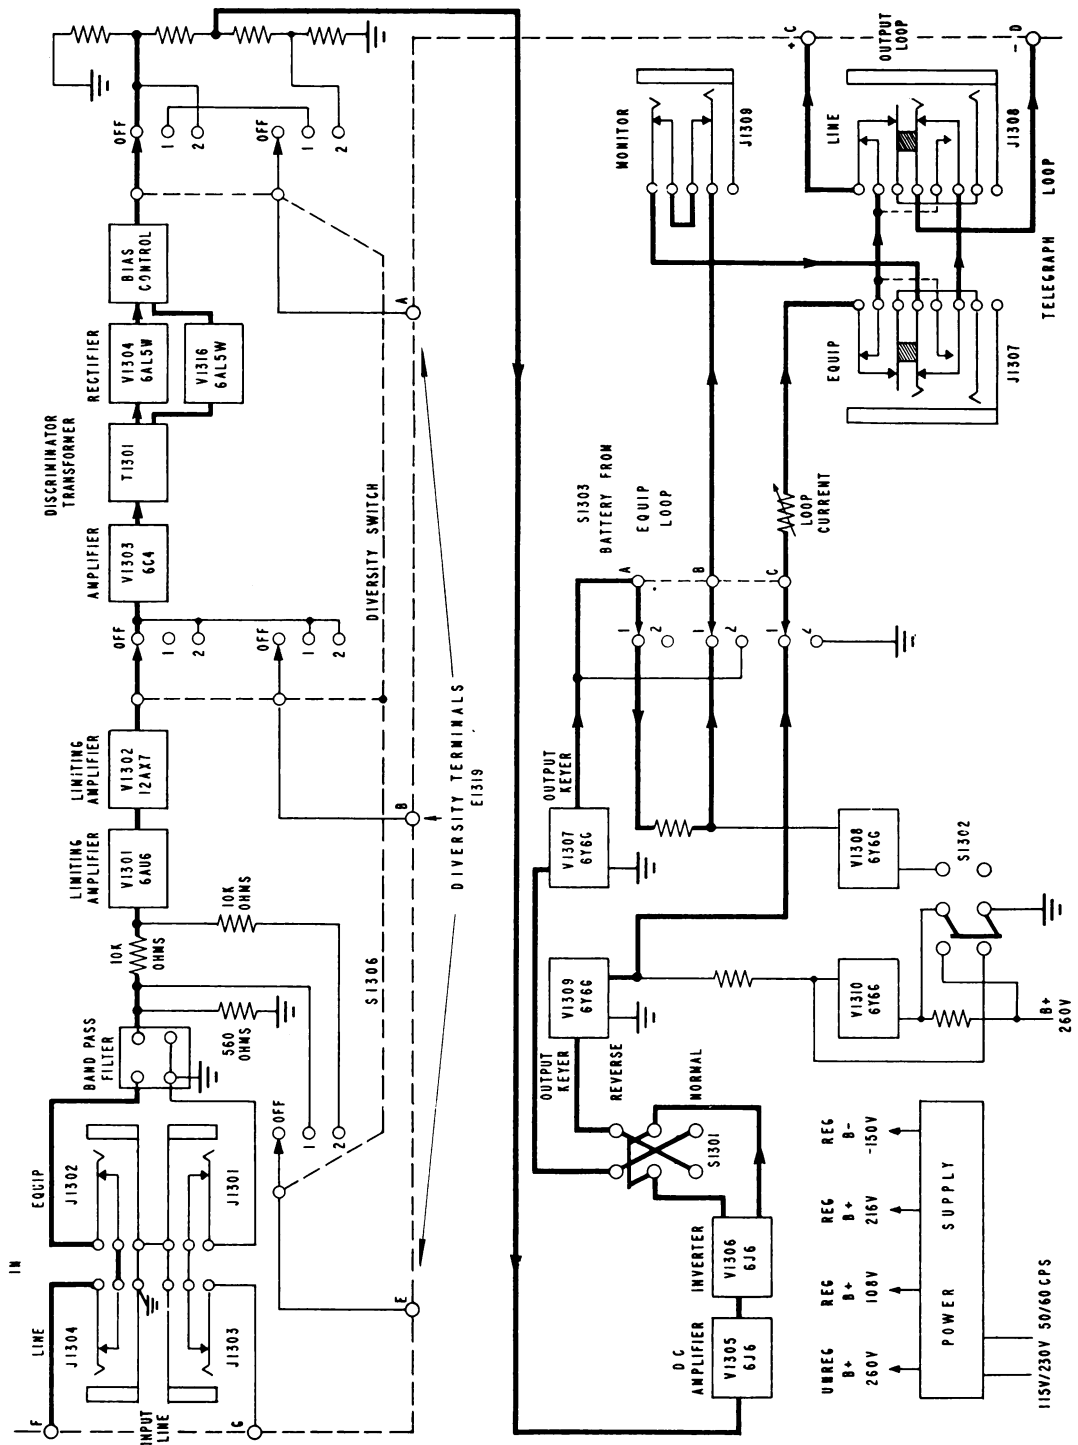

Figure 2-8. Block Diagram of Telegraph Carrier Receivers R-525/FCC-3 through R-536/FCC-3
a. GENERAL. - The principal circuits of the telegraph carrier receivers are shown on the block diagram of figure 2-8. The carrier signal enters the equipment through the IN LINE and IN EQUIP jacks both of which have the left-hand jack grounded. This corresponds to the side of the input line which is grounded to the